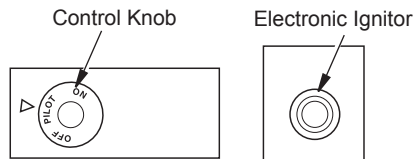

Figure 30 - Control Knob and Ignitor Button Location (Shown as Supplied - No Control Options)
3. Press in and turn control knob clockwise  to the OFF position (see Figure 30).
4. Wait five (5) minutes to clear out any gas. Then smell for gas, including near the floor. If you smell gas, STOP! Follow "B" in the safety information, page 20. If you don't smell gas, go to the next step.
5. Press in and turn control knob counterclockwise ↺ to the PILOT position. Press in control knob for five (5) seconds (see Figure 30, page 20).